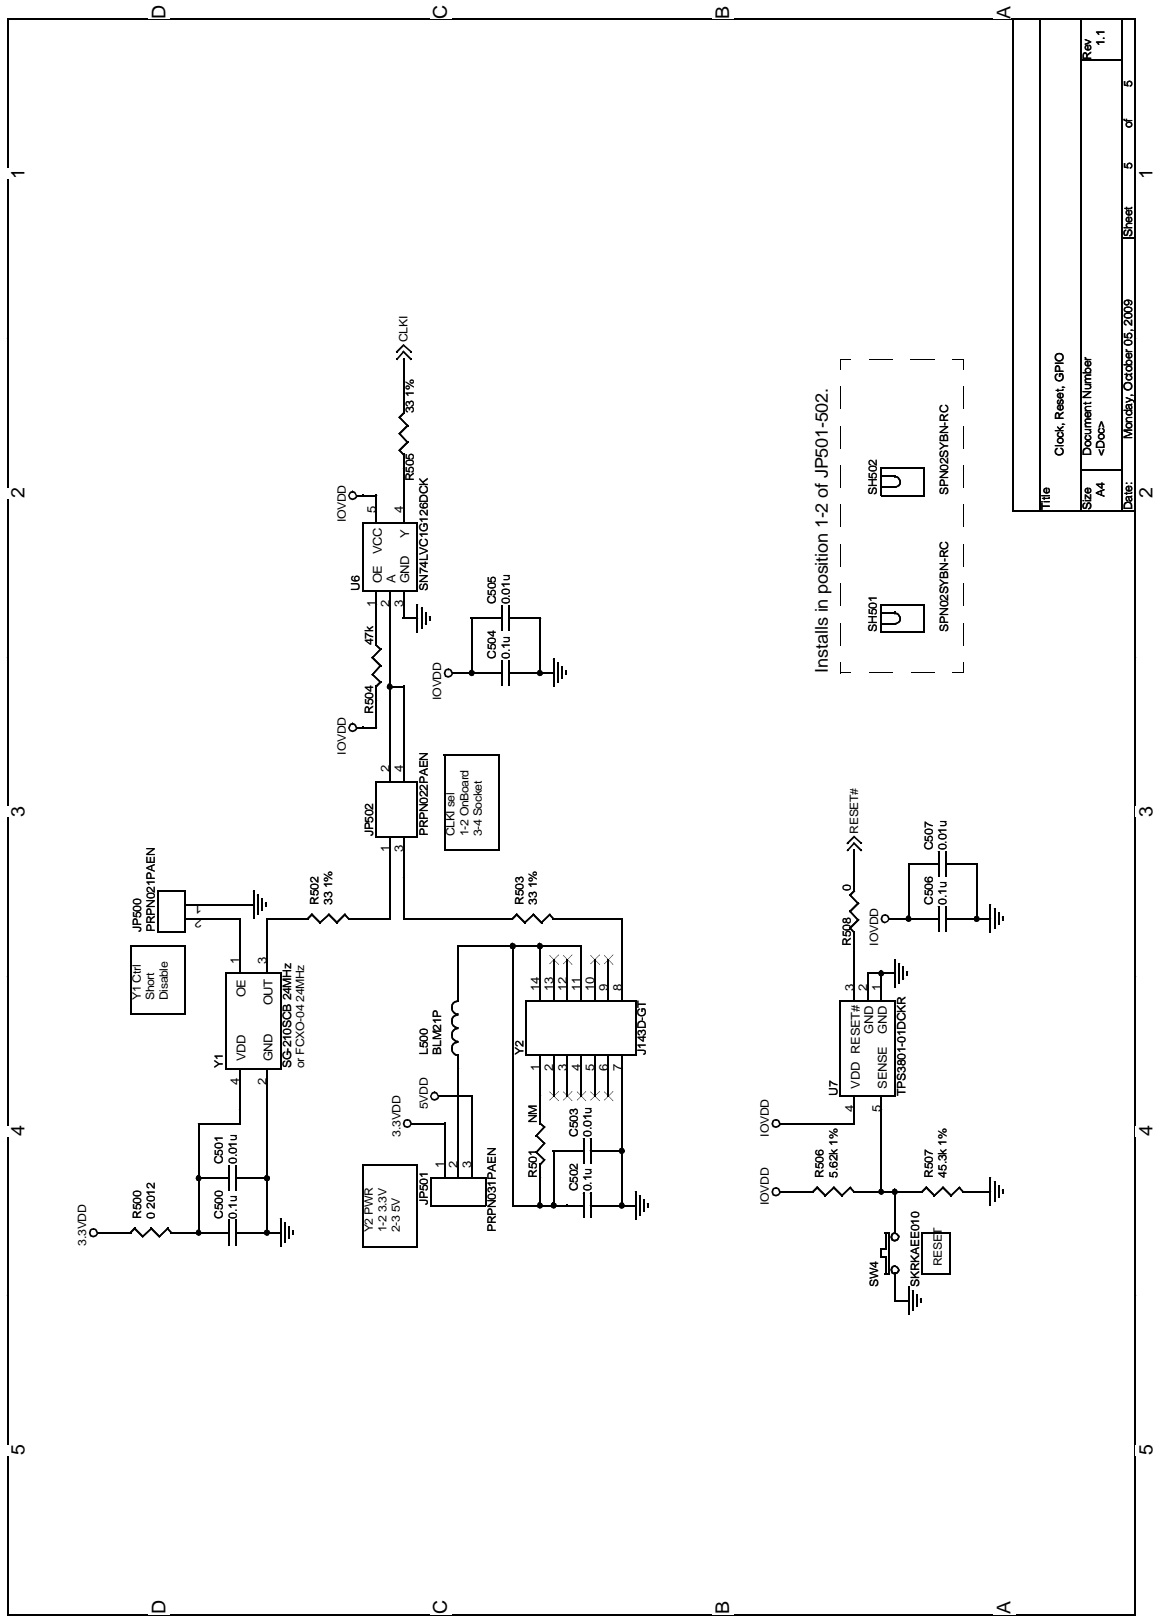

Figure 7-5: S5U13781P00C100 Schematics (5 of 5)
- chapter 7 Schematic Diagrams - add reference to “FCXO-05 24MHz” to Y1 in figure 7-5, *S5U13781P00C100 Schematics (5 of 5)*